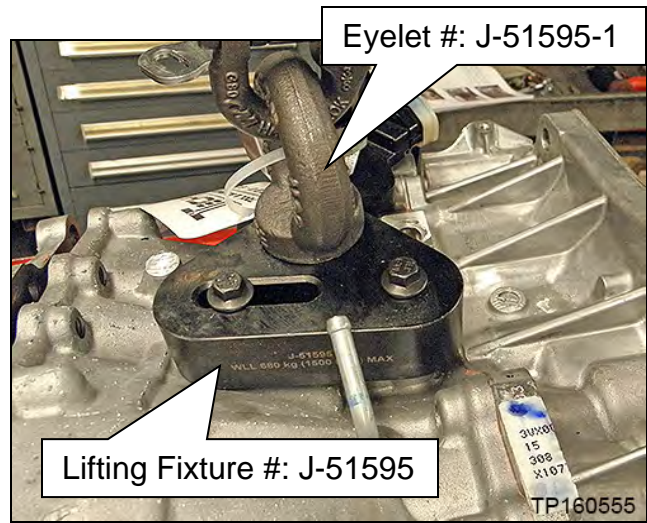
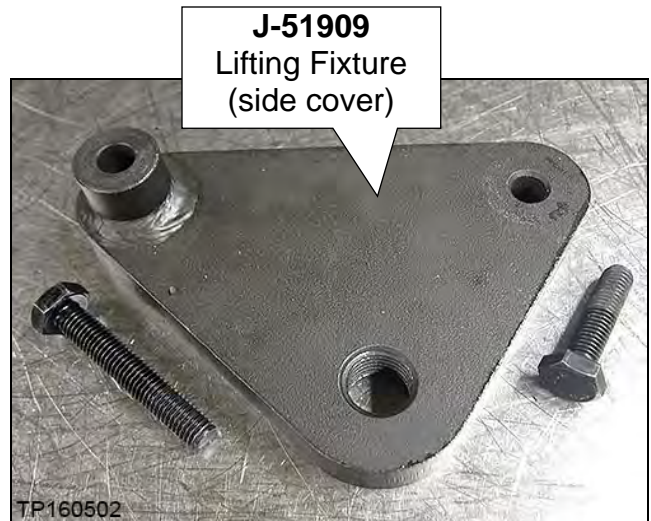
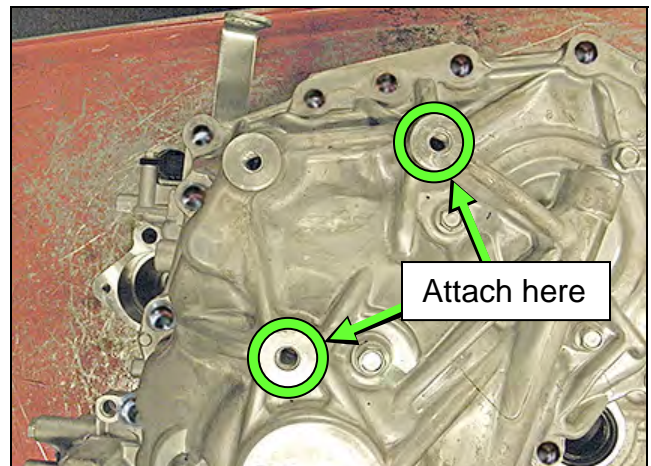

Figure 4F
Figure 9F
Figure 10F
- See Figure 4F for lifting fixture information.
7. Attach Lifting Fixture J-51909 (Figure 9F) with eyelet from J-51595 (Figure 4F) to the side cover at point shown in Figure 10F.